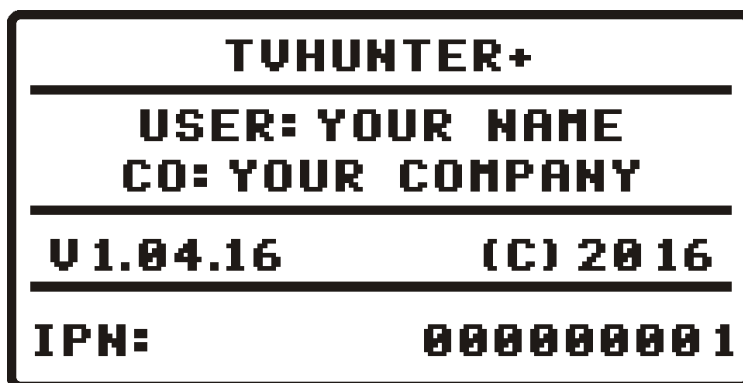

Figure 3. Name of the instrument (TVHUNTER+), user's name, company, firmware's version (v1.04.16), year and serial number.
- 5** Next, a screen will display the instrument's name, company and user names (editable by software) and the current version of firmware (Figure 3.).